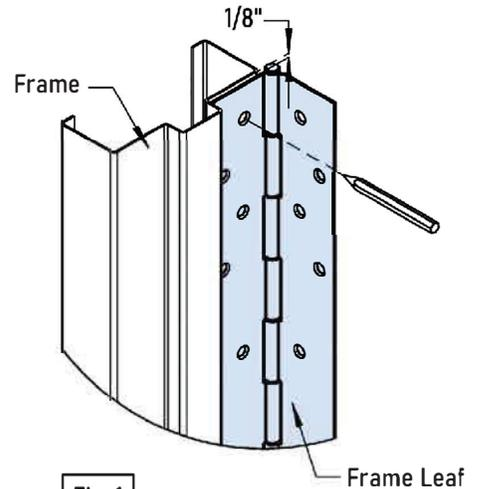

Fig. 1
A. Place hinge frame leaf on rabbet. Position top of hinge 1/8" maximum below header (Fig. 1 & 2).